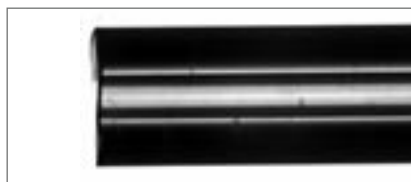

FIGURE 16 Typical cleave. (Polyimide coating was removed after cleaving for clarity of image.)
3. Pull gently on the tubing along its axis; it should easily separate at the point of contact. If it does not, repeat the procedure with a little more force. A typical cleave of 360 μm OD, 75 μm ID fused-silica tubing is shown in Figure 16. Residual surface irregularity is on average less than or equal to 10 μm .